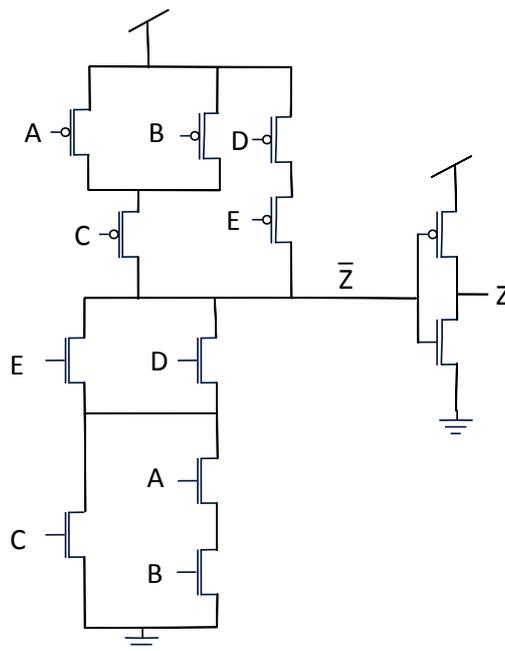
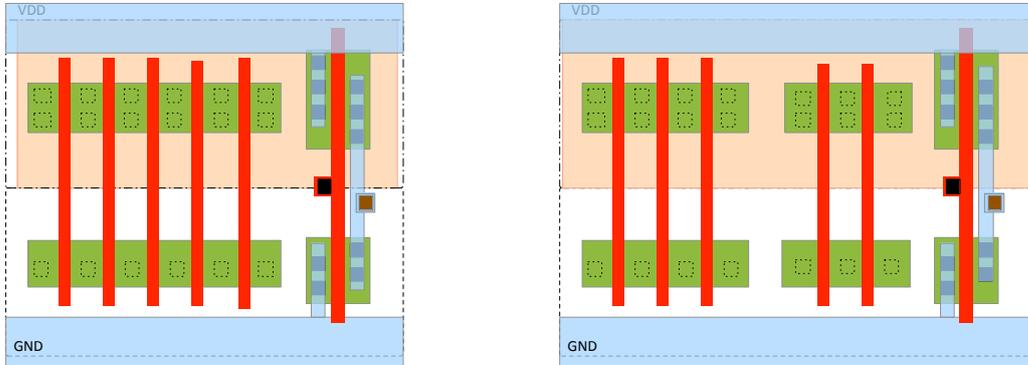

Figure 8.1: Circuit diagram for a 5-input cell comprising one compound cell and one inverter.
Figure 8.2: Two templates for drawing the layout in task 2 c). Select one of them for your solution.
Consider the static CMOS cell shown in Figure 8.1. The cell comprises one compound gate and one inverter and is to be implemented in our usual 65 nm process.
- a) Determine if it is possible to use a continuous-line-of-diffusion layout for the compound gate with the transistor order shown in Figure 8.1. If it is possible to do so, give one order of the inputs that will work. (2 p)
- b) Draw the layout of the cell in Figure 8.1 in one of the two supplied templates in Figure 8.2. The layout of the compound gate should match the schematic in Figure 8.1 exactly. (4 p)